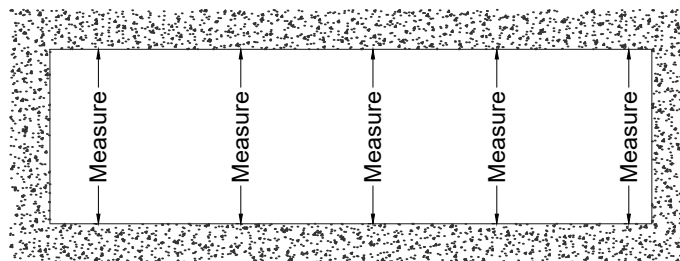

FIG. 3
- Measure the height of the opening (Rough Opening) at several points along the entire width of the opening. Select the smallest of these dimensions and subtract 1-1/2" [38.1] to allow a minimum of 3/4" [19] at sill and head for shim and caulking. **SEE FIG. 3.** Allow a larger clearance to accommodate building tolerances, an out-of-square opening, anticipated thermal expansion within the unit or as required by shop drawings.